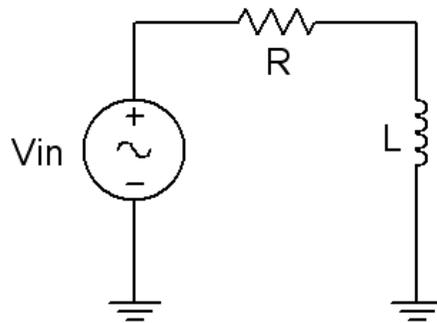

Figure 5.1
1. Using figure 5.1 with  $V_{in}=10\text{ V p-p}$  and  $R=10\text{ k}\Omega$ , and assuming that the reactance of the inductor is much smaller than  $10\text{ k}$  and can be ignored, determine the circulating current using measured component values and record in Table 5.1. Also, measure the DC coil resistances of the inductors using an ohmmeter or DMM and record in Table 5.1.
2. Build the circuit of figure 5.1 using  $R=10\text{ k}\Omega$ , and  $L=10\text{ mH}$ . Place one probe across the generator and another across the inductor. Set the generator to a  $1000\text{ Hz}$  sine wave and  $10\text{ V p-p}$ . Make sure that the *Bandwidth Limit* of the oscilloscope is engaged for both channels. This will reduce the signal noise and make for more accurate readings.